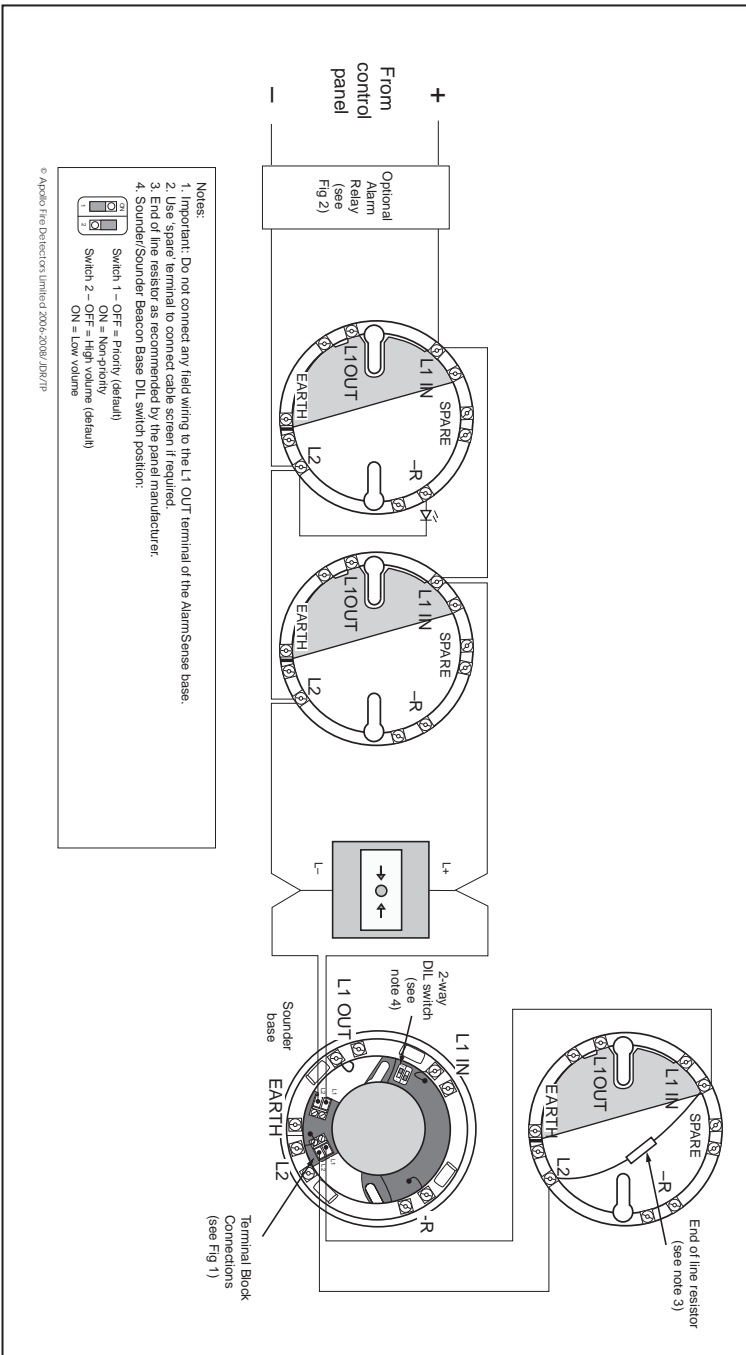

Fig 4 Schematic wiring diagram of an AlarmSense zone
Wiring connections to the AlarmSense base, part no 45681-244, are shown in Fig 4.
7. Connect end-of-line supplied by the panel manufacturer between COM 1 and COM 2. (See Fig 4).